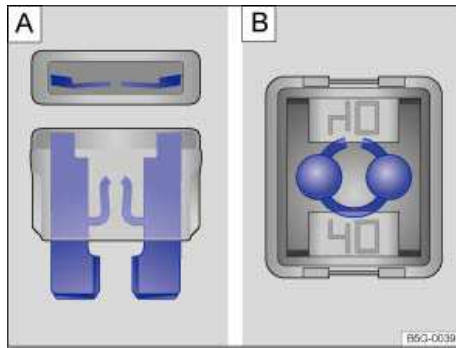

Fig. 174 Blown fuse: A: Blade fuse. B: Cartridge fuse.
- A blown *blade fuse* (ATO, MINI) has metal strips that have burned through, which you can see through the transparent housing from above and from the side ⇒ fig. 174 A.